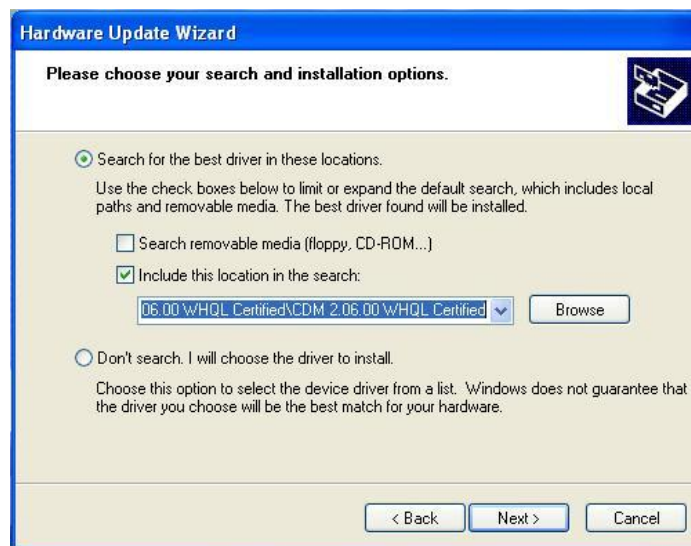

Figure 7.3: Select location of the driver
3. Select "Search for the best driver in these locations" and enter the file path in the combo-box ("C:\ CDM 2.06.00 WHQL Certified\CDM 2.06.00 WHQL Certified" in Figure 7.3 below) or browse to it by clicking the browse button. Once the file path has been entered in the box, click next to proceed.